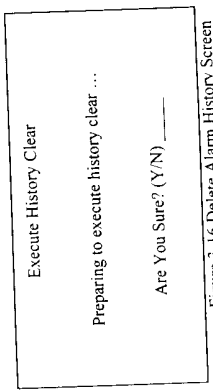

Figure 3-16 Delete Alarm History Screen
- Use the Arrow or Numeric keys to select Clear Alarm history from the Alarms Menu, see Figure 3-16.
- At the Clear Alarm History selection prompt, press the Enter or Return key. The system displays the query shown in Figure 3-16.